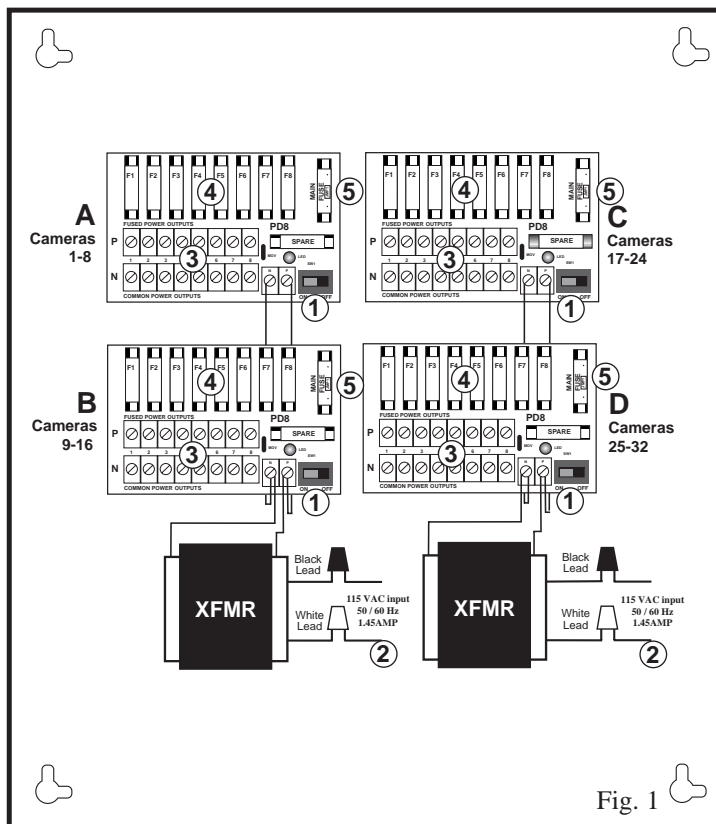

Fig. 1
- Output fuses are rated at 3.5AMP / 250VAC. (see Fig. 1, #4).
- Main fuses are rated at 10AMP/250VAC. (see Fig. 1, #5).
2. Turn the slide switch SW1 (see Fig. 1, #1) on the circuit boards to the OFF position.
3. Connect the AC (115 VAC 50 / 60 Hz) to the two black and white flying leads of the transformers (see Fig. 1, #2).
4. Connect devices to output terminals using the following procedure (see Fig. 1, #3).
5. Turn slide switch SW1 (see Fig. 1, #1) on circuit boards to the ON on position.